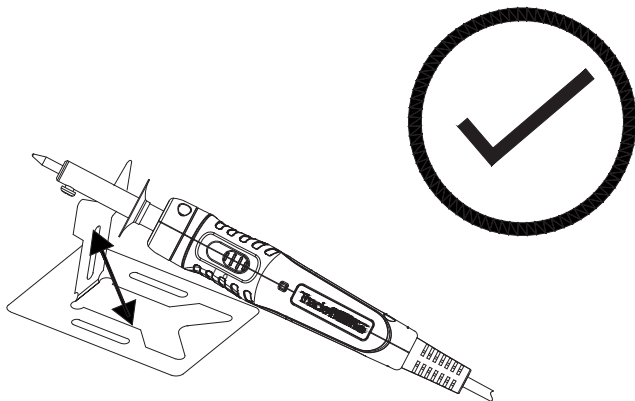

Fig. 2 - Correct storage of Soldering Iron when not in use
- While in use do not stand or store Soldering Iron on its side. Soldering Iron could tip resulting in contact between hot tip and flammable materials. Always set/store Soldering Iron on metal stand provided (Fig. 2)